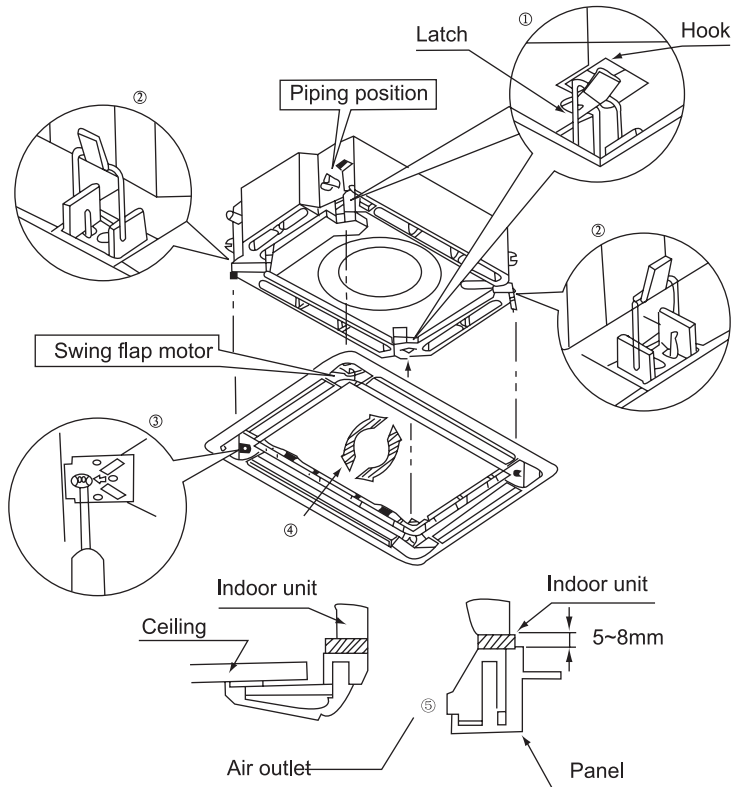

Fig.38
- (1). Place the panel at the unit, and latch the hooks beside and opposite the swing flap motor.
- (2). Latch other two hooks.
- (3). Tighten four hexagonal screws under the latches about 15mm.
- (4). Adjust the panel along the direction indicated by the arrow as shown in Fig.38.
- (5). Tighten the screws until the thickness of the sealing material between the panel and the indoor unit reduces to 5-8cm.